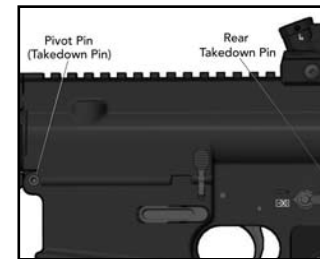

Fig. 22 – Takedown Pins
- b. Insert the small tip of the disassembly tool into the spring loaded detent located in the center of the rear takedown pin. Push the disassembly tool from left to right until the takedown pin reaches its limit of lateral travel (Fig. 22, 23).